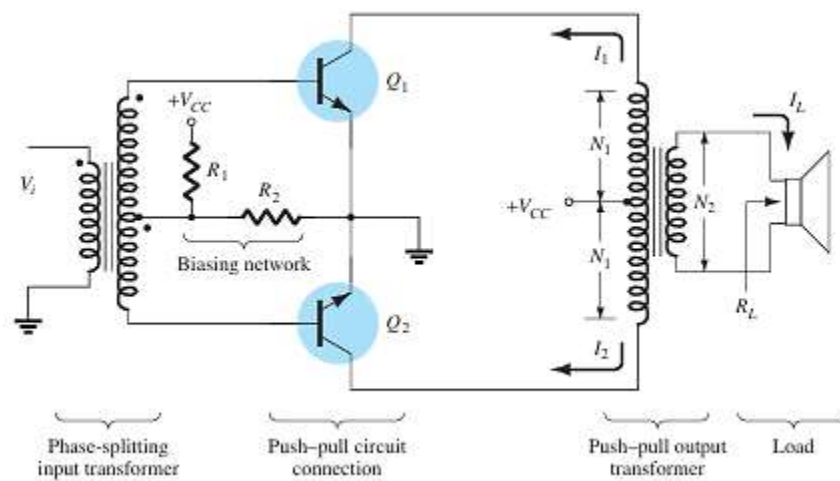

**Fig.3. Phase-splitter circuits.**
transformer, and the transformer-coupled amplifier has been very popular for a long time. Opposite-polarity inputs can easily be obtained using an op-amp having two opposite outputs or using a few op-amp stages to obtain two opposite-polarity signals. An opposite-polarity operation can also be achieved using a single input and complementary transistors (nnp and pnp, or n MOS and p MOS). Figure .3. shows different ways to obtain phase-inverted signals from a single input signal. Figure.3. a show a center-tapped transformer to provide opposite-phase signals. If the transformer is exactly center-tapped, the two signals are exactly opposite in phase and of the same magnitude.
**Transformer-Coupled Push–Pull Circuits** The circuit of Fig.3. uses a center-tapped input transformer to produce opposite-polarity signals to the two transistor inputs and an output transformer to drive the load in a push–pull mode of operation described next. During the first half-cycle of operation, transistor Q1 is driven into conduction, whereas transistor Q2 is driven off. The current  $I_1$  through the transformer results in the first half cycle of signal to the load. During the second half-cycle of the input signal, Q2 conducts, whereas Q1 stays off, the current  $I_2$  through the transformer resulting in the second half cycle to the load. The overall signal developed across the load then varies over the full cycle of signal operation.